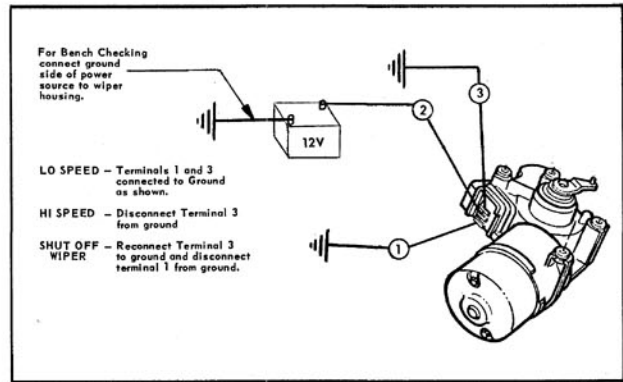

Fig. 13-147 Bench Checking Connections
1. Connect wiper to operate in "lo" speed as shown in Fig. 13-147 and observe whether relay armature pulls in. Use the following chart to select the next step.
Connect power source to wiper as shown in Fig. 13-147. DO NOT connect jumper wires. Observe if relay armature pulls in.
4. Connect up wiper as shown in Fig. 13-147 and check that wiper operates in both speeds.
Look for a grounded condition in the black lead that connects to terminal #3 (Fig. 13-147) or in the shunt field.
1. With wiper connected to operate in "lo" speed (Fig. 13-147) observe current draw.